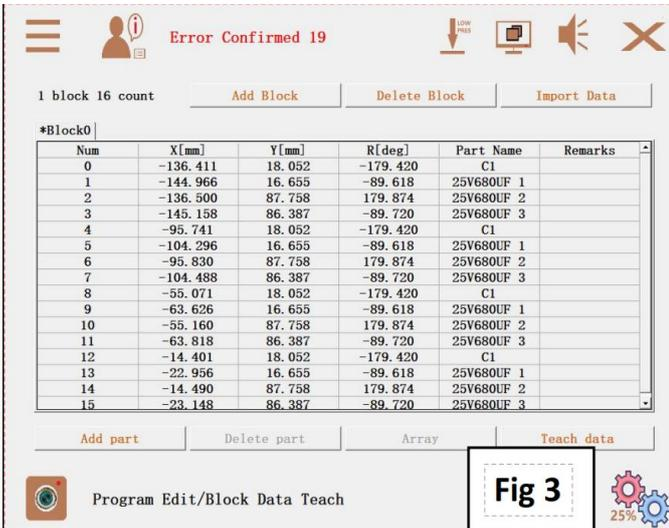

Fig 3
- c.** Add the insert position of the first panel to the block data and teach it (as shown in Figure 3);